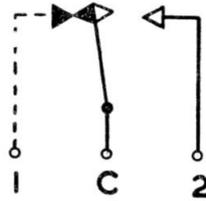

Fig. 3. Wiring diagram
4. The switch is provided with a set of change-over contacts, as shown in *fig. 3*, taken to terminals 1, C, and 2. In the normal application of this switch for pressure refuelling, terminal 1 is not used. Contacts C and 2 are closed by the setting of the pointer, and open at the end of the 8-minute period, when the cam follower drops off the step on the operating cam.